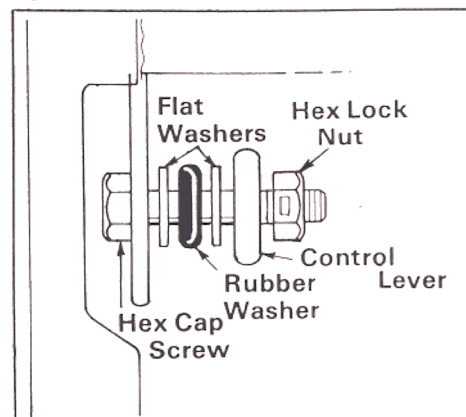

Figure 5
- 3 Attach the control lever to the control panel with hex head cap screw 5/16 x 1 1/4" long, steel washer 5/16", rubber washer, 5/16" steel washer and hex nut 5/16". Do not over tighten. Make sure handle moves freely. (See figure 5.)